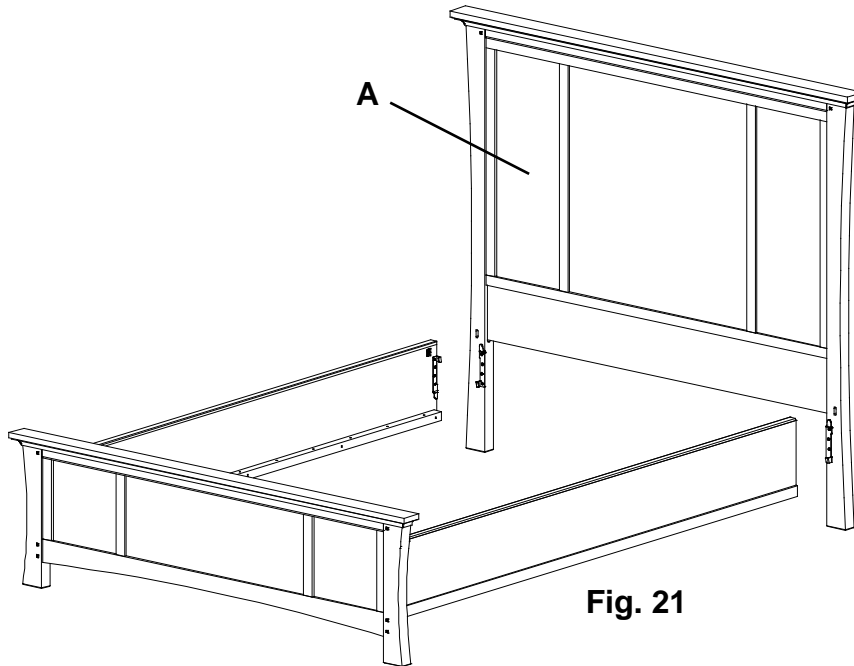

Fig. 21
21. Align the Brackets on both sides and slide the Side Rail/Footboard assembly down on to the Headboard (A). See Figure 21.